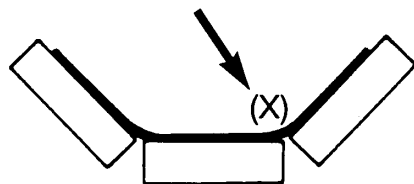
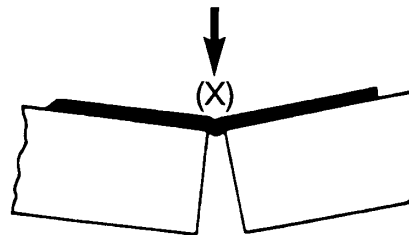

Fig. 1
Fig. 2
* The idler junction is the gap between the functioning surfaces of the center roll and one of the side rolls of the idler (See Fig. 1). This gap poses a potential hazard for the belt by providing a narrow space in which the belt can settle experiencing highly detrimental flex and possible exposure to oil or grease from the idler bearings (Fig. 2). When slipping of the belt into the idler junction is the cause of belt damage, it is called idler junction failure. The idler gap should be less than .4" or twice belt thickness-which ever is less.